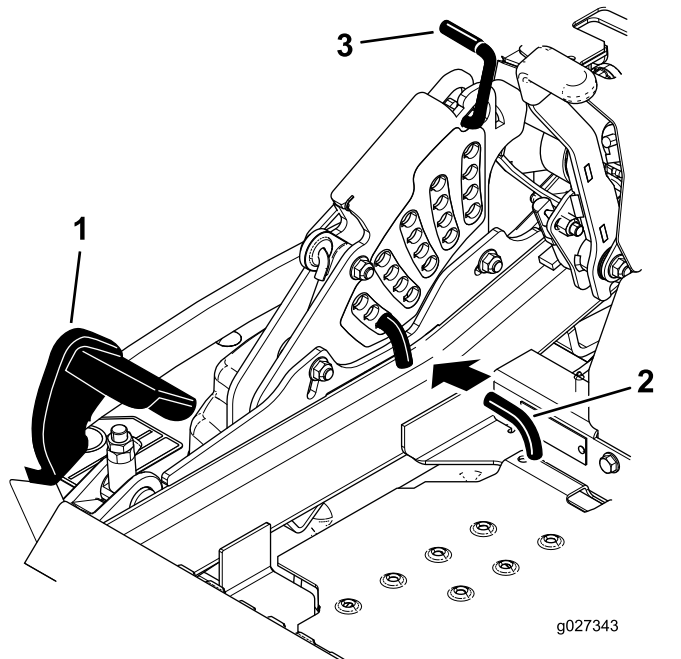

Figure 23
2. Push the deck-lift pedal with your foot and raise the mower deck to the TRANSPORT position (also the 140 mm (5-1/2 inch) cutting-height position) as shown in Figure 23.
3. To adjust, rotate the pin 90° and remove the pin from the height-of-cut bracket (Figure 23).
4. Select a hole in the height-of-cut bracket corresponding to the height-of-cut desired and insert the pin (Figure 23).